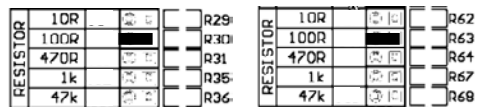

Figure 4: Left and right channels set to a 100 Ω resistance load
In the event that you're using a moving magnet (MM) cartridge, it is recommended that you leave the jumpers inserted in sockets for a 47k Ω resistive load. Conversely, if you're using a moving coil (MC) cartridge, experiment with the four (4) other available loads ranging from 10 Ω through 1K Ω , selecting the load that provides the best possible sound quality. For example, if you decided on using the resistance setting of 100 Ω , then you would insert the supplied jumpers into sockets besides 100R (refer to figure 4).